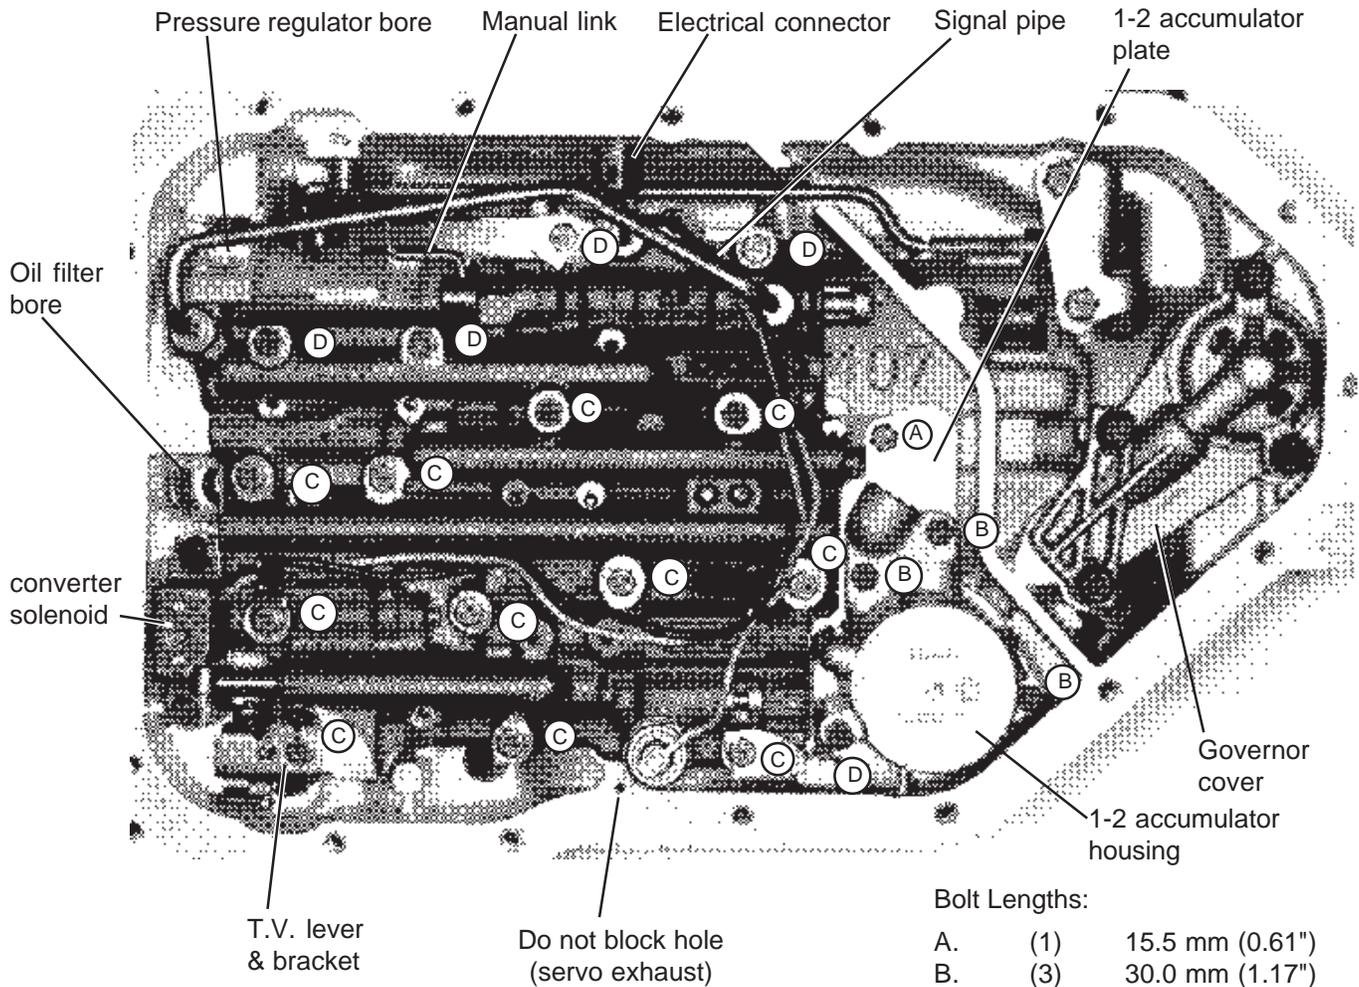
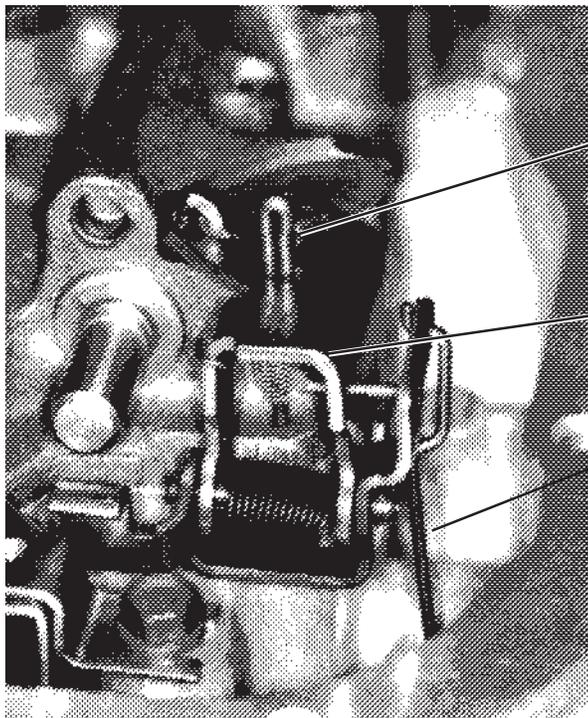

Fig. 1. Valve body and accumulator installed.
Fig. 2. T.V. Lever and Bracket.
**STEP 3. (See Fig. 1)** There are a variety of different wiring harnesses used on the TH-200-4R. Before proceeding further make a sketch and some notes describing your particular unit, recording which connectors go to which switch. Disconnect the T.V. cable connector from the throttle lever on carburetor or throttle body. Remove connectors from switches. Unplug the wiring harness from case electrical connector by prying the lock tab away from the plug and pulling down on the plug, **do not pull on the wires**. Removing solenoid is not required, just tie the wires up out of the way. Remove signal oil pipe, detent spring, and the throttle valve lever and bracket assembly, (see Fig. 2.)
**STEP 4.** Remove all valve body bolts **except** the center one (See Fig. 1.) Hold the valve body up firmly with one hand and remove the remaining bolt slowly. Lower the valve body and disengage the manual valve link. There are several check balls in the valve body along with several pints of oil. Have your drain pan ready to catch the oil and check balls (should they fall out.) Save all (12) check balls in a safe place where they won't get lost.
draw the accumulator up to the case. **STEP 16. Valve body installation.** Make sure check balls are in proper locations. Position the manual valve so the link rod can be engaged (See Fig. 1.) Do not force the manual valve at any time. When the link and manual valve are fully engaged, align the valve body and case holes then install one bolt finger tight to hold valve body in place. **Important:** Make sure the manual valve link is located as shown.
**STEP 17.** Install the throttle valve (TV) linkage onto the valve body as shown, make sure the T.V. exhaust checkball lifter rod is correctly assembled. (See Fig. 2.) **IMPORTANT NOTE:** The T.V. cable **MUST** be reset before operating vehicle refer to **step 22.**
**STEP 18.** Carefully insert ends of the signal oil pipe in their respective bores and push them in evenly until fully engaged. Engage all of the remaining bolts to finish lining up the separator plate and gaskets (See Fig. 1.) Tighten all the valve body and accumulator bolts to 11 NM (8 Ft. Lb.) Avoid stripped threads, Do not over tighten bolts.
(Fig. 1) is not obstructed. Place pan up to case, align holes and install all bolts finger tight. Tighten bolts to 14 NM (10 Ft. Lb.) Do not over tighten bolts. If the bolts are over tightened the gasket will deform excessively and result in oil leaks.